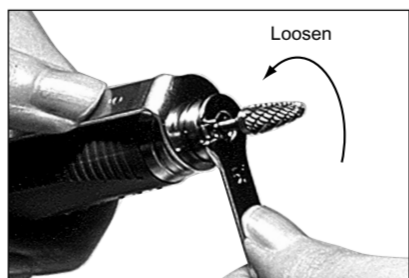

Fig. 12
* If a bur having a large diameter of a cutting part is used under a high torque, the chuck may rotate in the close direction and the bur may be stuck and cannot be removed. In this case, align the nose's slit and spindle's spanner position (flat part), and apply an L spanner to fix the spindle. Open the ring and turn the chuck counterclockwise with the provided spanner wrench to remove it. (Fig. 12)